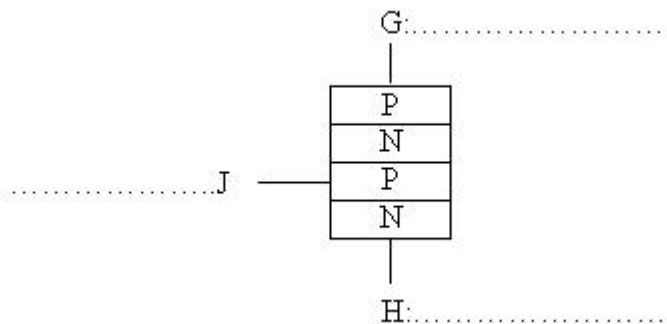

FIGURE 7
14. Figure 7 shows the SCR construction.